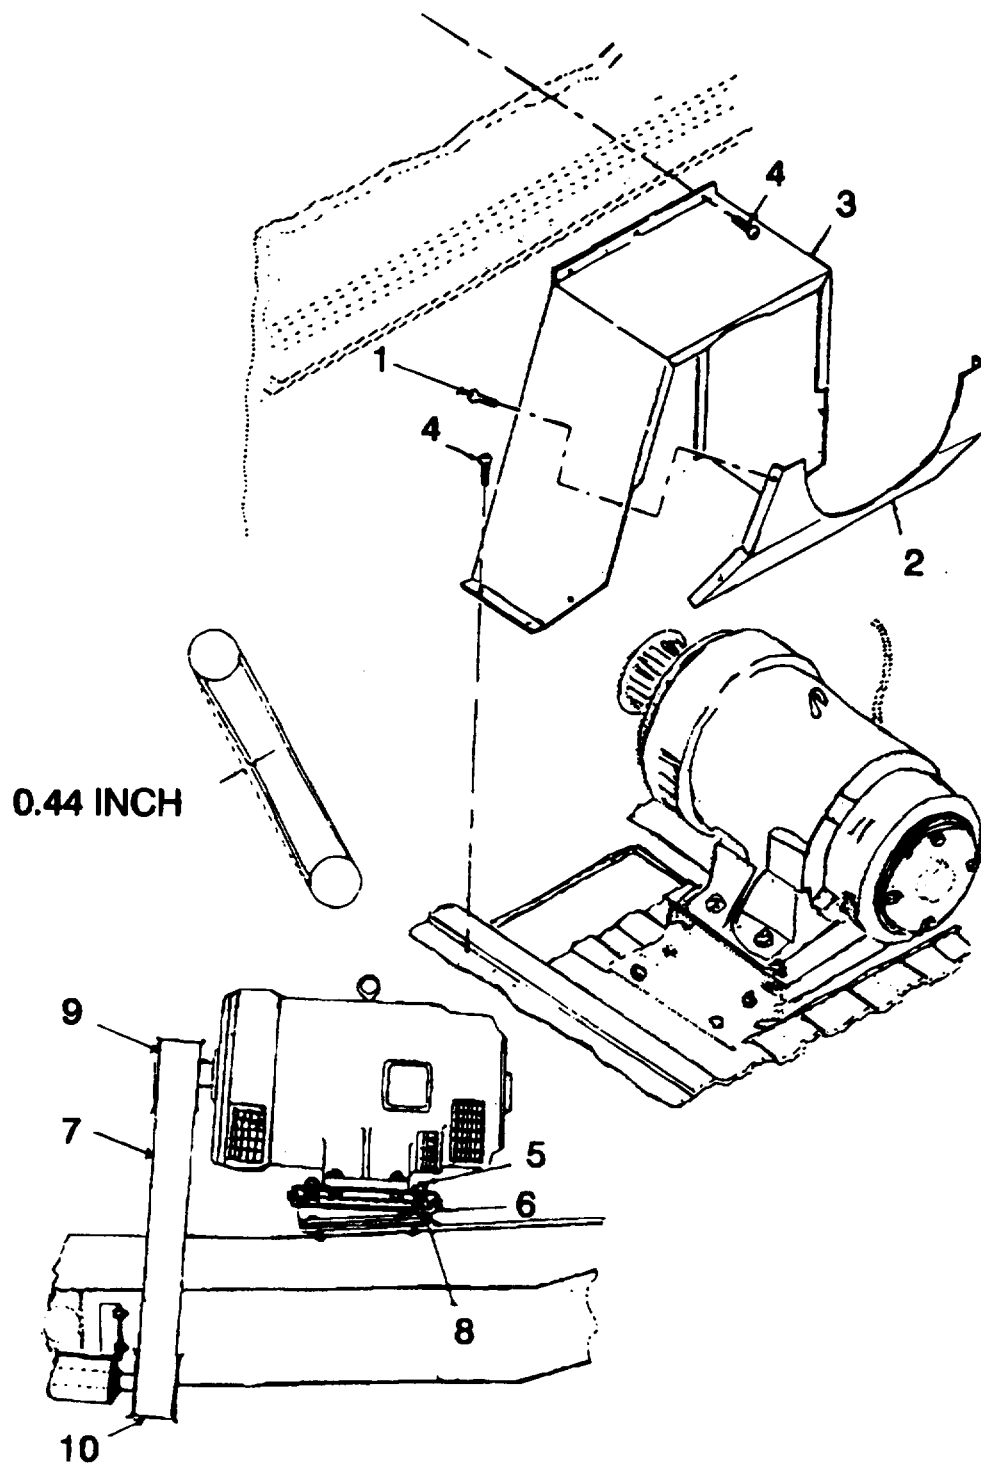

Figure 4-10. Positive Drive Belt, Removal/Installation/Adjustment.
a. **Removal.** (Refer to figure 4-10).
- (1) Remove four screws (1) which attach belt cover rear panel (2) to belt cover panel (3).
- (2) Remove seven machine screws (4) and belt cover panel (3).
- (3) Remove belt cover rear panel (2).
- (4) Loosen two plain hexagon nuts (5) on alternator mount (6).
- (5) Relieve tension on belt (7) by turning belt adjustment hexagon nuts (8) down. Turn belt adjustment nuts (8) until belt (7) can easily slip off top sprocket wheel (9) and bottom sprocket wheel (10).
- (6) Remove belt (7) from top sprocket wheel (9) and bottom sprocket wheel (10).
- (1) **Cracks** - Small cracks are allowed. If the crack creates a hinge point with excessive flexing movement or if the cords of the belt are visible, replace the belt.
- (2) **Grease** - Replace belt if sidewalls are slick and the undercore is grease softened. Greasy belts deteriorate rapidly.
- (3) **Glaze** - Replace belt if sidewalls are slick, hard, or board-like.
- (4) **Undercore Wear** - Replace belt if sections of the undercore underside of the belt below the cord section are broken off, peeling, or cracked and exposing the belt's cord.
- (5) **Split Belt/Sidewall Wear** - Replace belt if sidewall is frayed or badly worn. Also replace belt if undercore is split open.
**c. Installation/Adjustment (Refer to Figure 4-10).**
- (1) Place belt cover rear panel (2) in installation position.
- (2) Install belt (7) over bottom sprocket wheel (10).
- (3) Install belt (7) over top sprocket wheel (9).
- (4) Check that belt undercore sections mesh correctly with sprockets.
- (5) Measure belt deflection at center approximately 14 inches below centerline of top sprocket wheel with 15 pounds pressure: Deflection should be 0.44 inch.
- (6) Turn belt adjustment hexagon nuts (8) up six flats at a time for coarse adjustment until approximately 0.44 inch deflection of the belt (7) is obtained. Make adjustments one flat at a time.
- (7) Tighten two plain hexagon nuts (5) on alternator mount (6).
- (8) Install belt cover panel (3) and secure with seven machine screws (4).
- (9) Install belt cover rear panel (2) to belt cover panel (3) and secure with four capscrows (1).